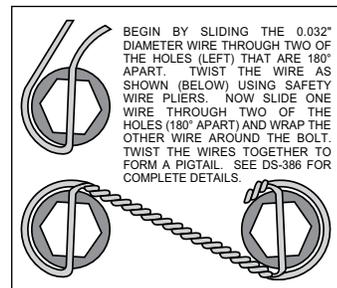

Figure 3. Safety Wire Diagram
- Orient the rotor (3) and the hat (4) as shown in Figure 1 and Photo 1. Attach rotor to hat using bolts (5) and washers (6). Apply red *Loctite*® 271 to the bolt threads and torque to 155 in-lb using a criss-cross pattern. For an added measure of security, the bolts may be safety wired using standard 0.032 inch diameter stainless steel safety wire as shown in Figure 3. Refer to Wilwood's data sheet DS-386 (available at www.wilwood.com/pdf/DataSheets/ds386.pdf) for complete safety wire installation instructions.